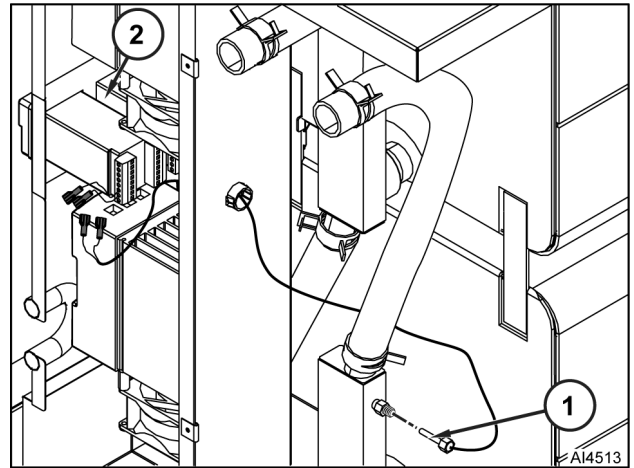

Fig. 43
2. Disconnect sensor probe (1, Fig. 43 wires from PID controller (2) leads.
3. Remove sensor probe (1) from sensor tube.